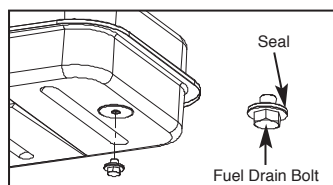

Figure 12 - Drain Bolt
5. Reinstall Fuel Drain Bolt to Fuel tank and tighten firmly using 3/4" socket or adjustable wrench. (For Models 3VE50G, 3VE51G, 3VE52H only. See Figure 12)